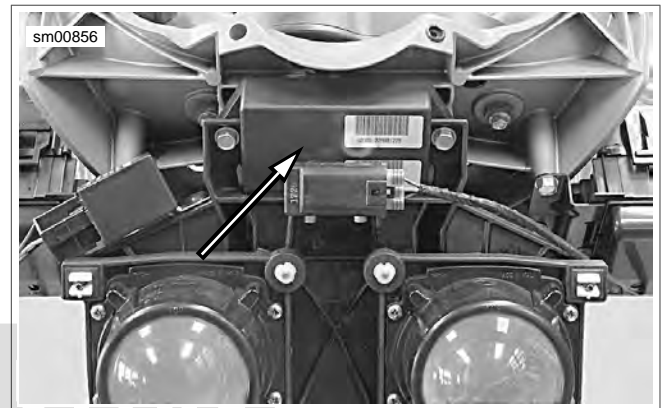

Figure 4-6. Electronic Control Module (ECM): Firebolt
4. See Figure 4-6. Remove Electronic Control Module (ECM). See 2.26 HEADLAMP ASSEMBLY AND SUPPORT BRACKET.